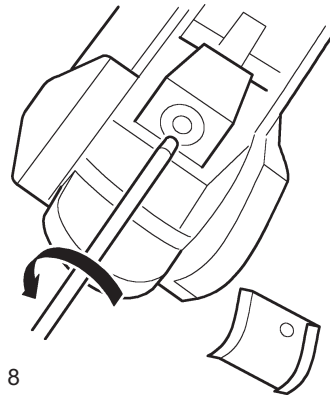

Fig. 8
- Remove screw from back plate. (Fig. 8)